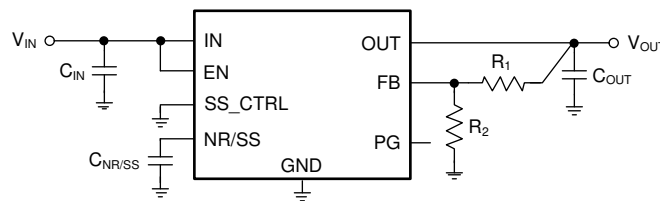

Figure 7-1. Adjustable Operation
As Figure 7-1 shows, the output voltage of the TPS7A90 can be adjusted from 0.8V to 5.2V by using a resistor divider network.
(1) R₁ connects from OUT to FB; R₂ connects from FB to GND; see Figure 7-1.